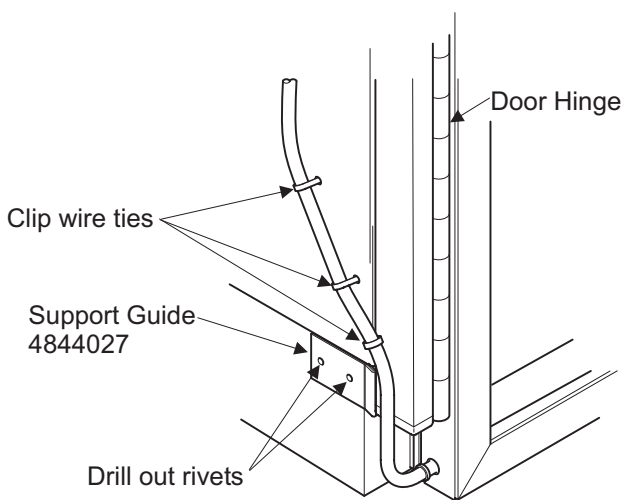

Figure 3
4. Clip the wire ties that secure the door wiring harness to the Food Module (figure 3).